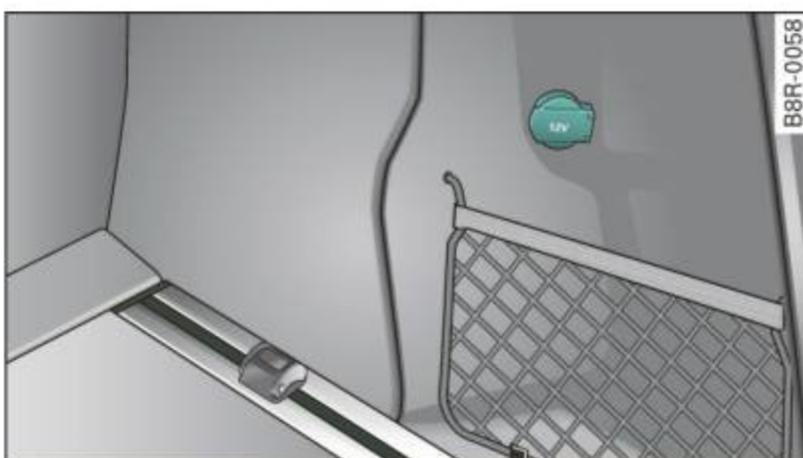
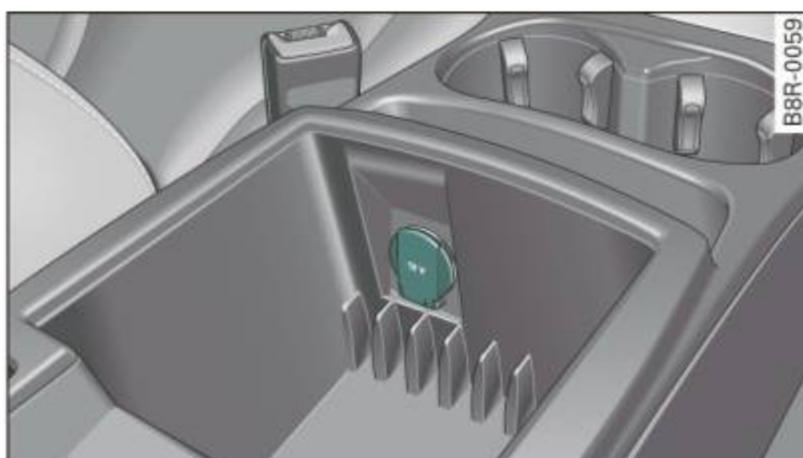

Fig. 97 Section of the trim panel of the luggage compartment: 12-volt socket
Fig. 98 Center console: 12-volt socket
- Open the socket cover ⇒ fig. 97 or ⇒ fig. 98.